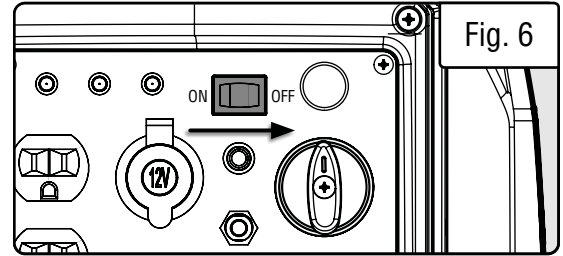

Fig. 6
6. Turn the ECO-MODE switch to “OFF” during starting (Fig. 6).